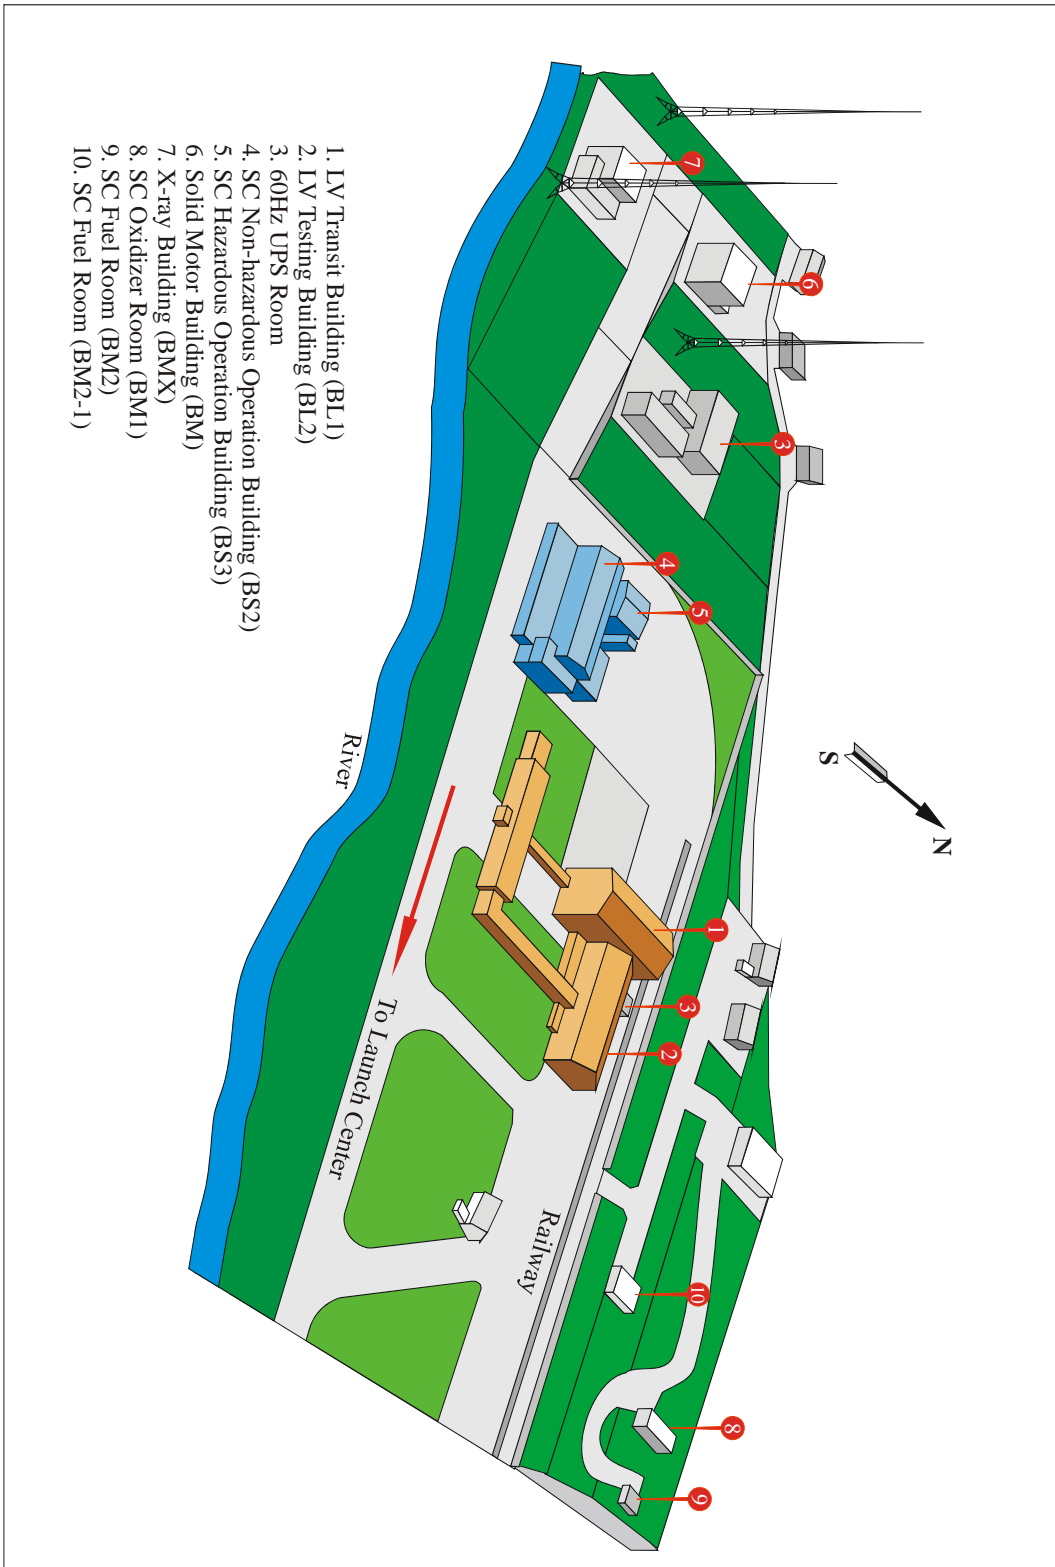

Figure B7-2 Technical Center
Technical center includes LV Processing Building (BL), SC Processing Buildings (BS), Power Station, Truck-Barn, etc. The LV and the SC will be processed, tested, checked, assembled and stored in Technical Center. Refer to **Figure B7-2**.